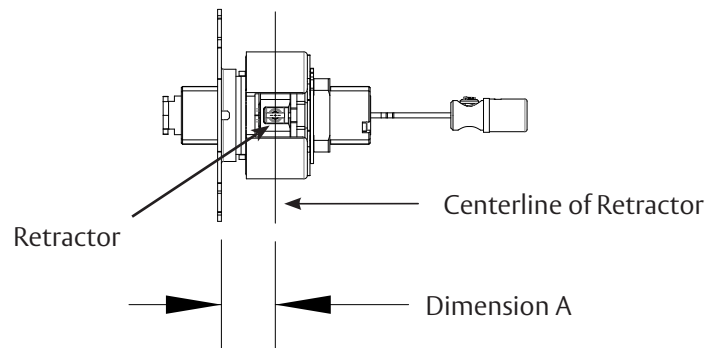

Figure 5
2. Rotate outside rose liner to adjust lock to fit door thickness, so distance (Dimension A) from inside surface of liner to centerline of retractor is half the thickness of the door (See chart and Figure 5).